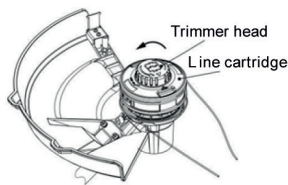
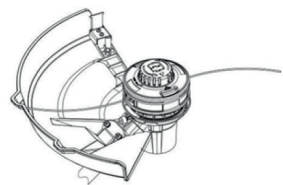

Fig. 12B
Fig. 12C
3. The end of the line appears in the opposite eyelet of the spool, pull both ends of the line until they appear the same protruding length. (Fig.12B)
4. Hold the line cartridge with one hand and turn the bump knob anti-clockwise with the other hand, until both of the line ends leave approximately 15cm length protruding. (Fig.12B/Fig.12C)